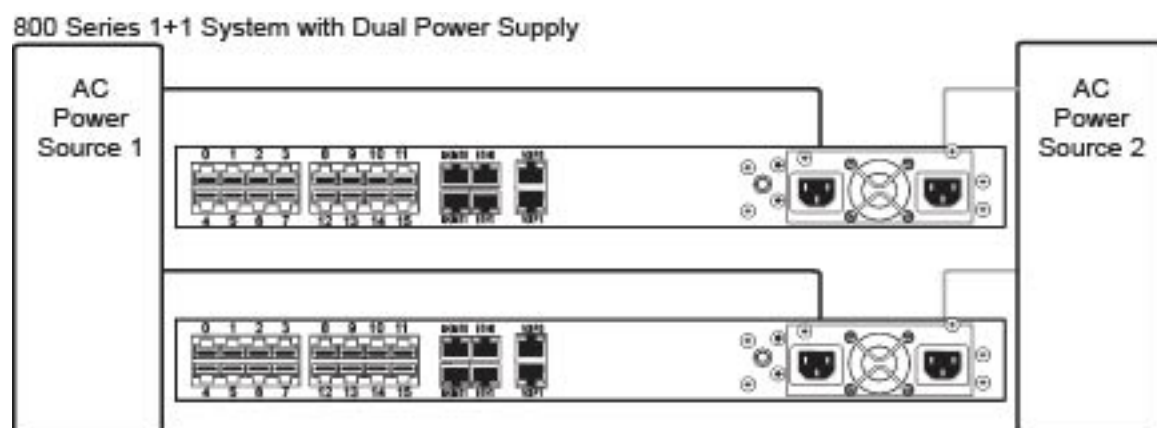

Figure 2.13 800 Series and 800 Series +1 AC Power Connections
1. Connect the first power connector of each unit to the first power source. See Figure 2.13.